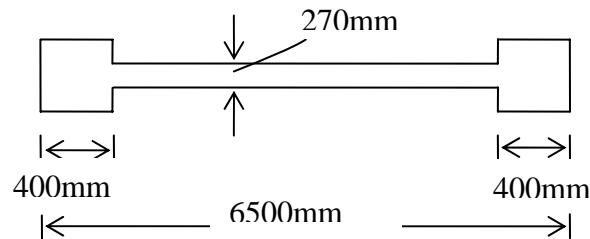

Fig.1 Shear wall
7. Design a shear wall of length 6.5m and thickness 270 mm subjected to the following forces (Fig.1). Assume moderate exposure condition. Assume $f_{ck} = 35 \text{ MPa}$ and $f_y = 415 \text{ N/mm}^2$ and the wall is a high wall with the following loadings: Sketch the reinforcement details.